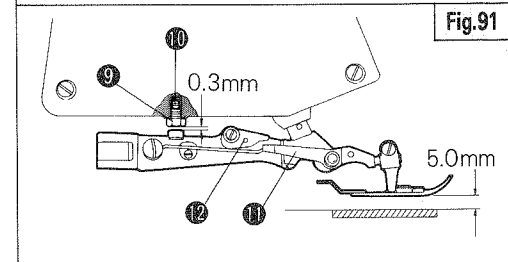

Fig.91
Make sure that there is clearance 0.05mm between Lever ① and Stopper ⑫ (Fig. 91) when the presser foot is lowered.